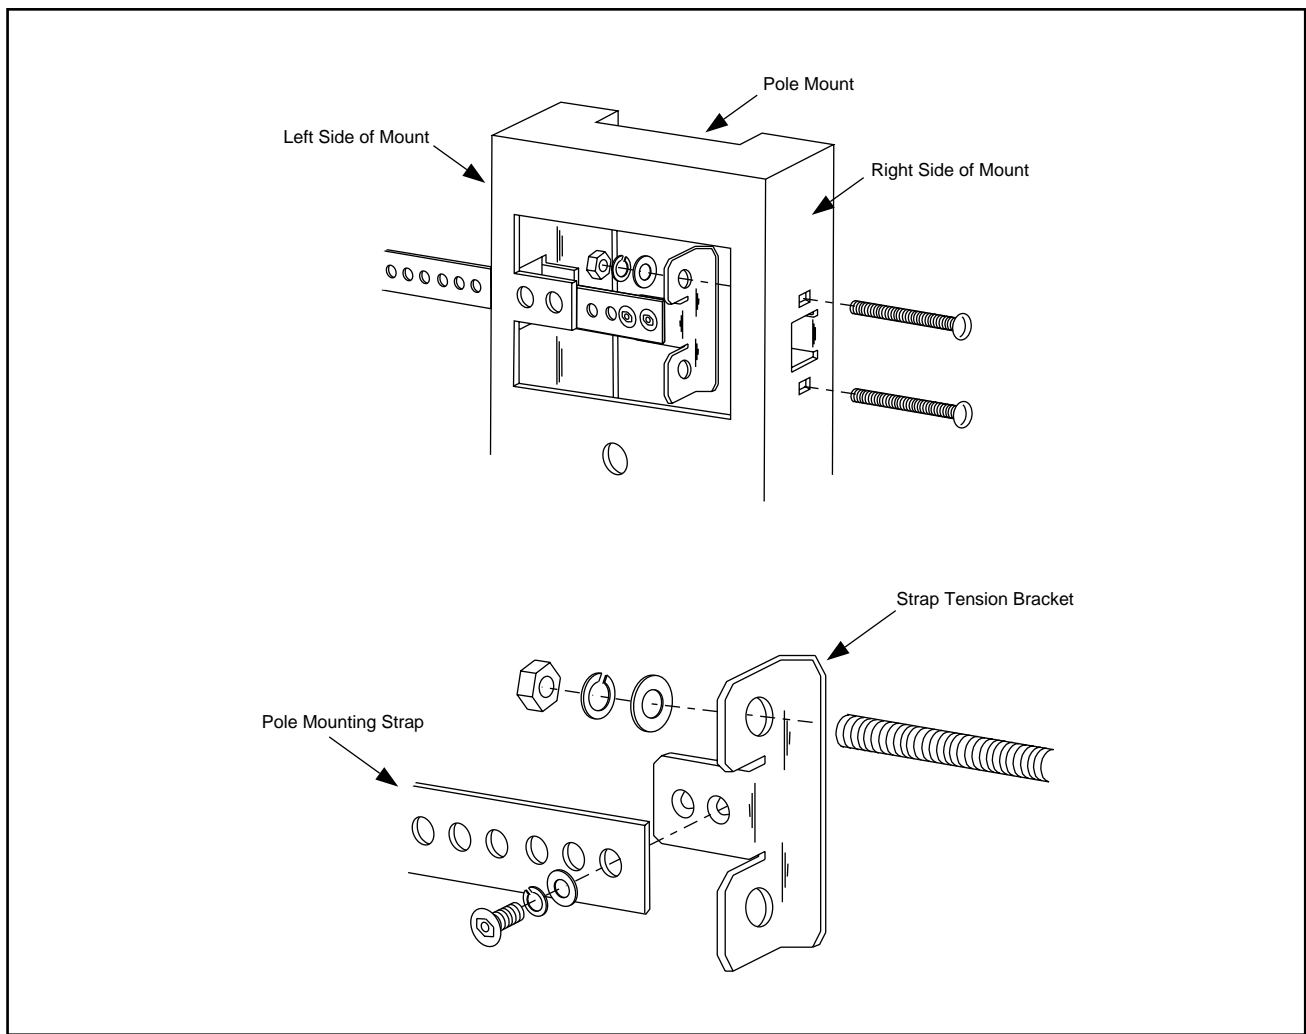

Figure 4-5. Pole-Mount Bracket Assembly
3. Attach the mounting straps to the strap tension brackets using two screws, two lock washers, and two flat washers. See Figure 4-5 on page 4-17 for a close-up of the bracket assembly.
4. Slide the assembled straps through the rear of the bracket and out the left side holes. Ensure the tension bracket holes are facing the right side of the bracket. See Figure 4-5 on page 4-17.